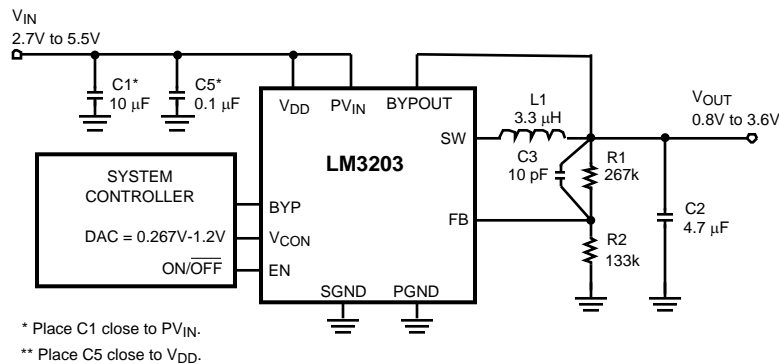

Figure 31. Typical Operating System Circuit where baseband controls the output voltage using a DAC
(1) All voltages are with respect to the potential at the GND pins.
(2) Min and Max limits are specified by design, test, or statistical analysis. Typical numbers are not ensured, but do represent the most likely norm.
(3) The LM3203 is designed for mobile phone applications where turn-on after power-up is controlled by the system controller and where requirements for a small package size overrule increased die size for internal Under Voltage Lock-Out (UVLO) circuitry. Thus, it should be kept in shutdown by holding the EN pin low until the input voltage exceeds 2.7V.
(4) Over-Voltage protection (OVP) threshold is the voltage above the nominal V_{OUT} where the OVP comparator turns off the PFET switch while in PWM mode. The OVP threshold will be the value of the threshold at the FB voltage times the resistor divider ratio. In the Figure 31, $100\text{mV (typ.)} \times ((267\text{K} + 133\text{K}) \div 133\text{K})$.
(5) Shutdown current includes leakage current of PFET and Bypass FET.
(6) Electrical Characteristics table reflects open loop data ($FB=0\text{V}$ and current drawn from SW pin ramped up until cycle by cycle current limit is activated). Refer to Typical Performance Characteristics (Open/Closed Loop Current Limit vs Temperature (PWM Mode) curve) for closed loop data and its variation with regards to supply voltage and temperature. Closed loop current limit is the peak inductor current measured in the application circuit by increasing output current until output voltage drops by 10%.
(7) Bypass FET current limit is defined as the load current at which the FB voltage is 1V lower than V_{IN} .
(Circuit in Figure 31, $PV_{IN} = V_{DD} = EN = 3.6V$, $BYP = 0V$, $T_A = 25^\circ C$, unless otherwise noted)
Referring to Figure 31, the LM3203 operates as follows. During the first part of each switching cycle, the control block in the LM3203 turns on the internal PFET (P-channel MOSFET) switch. This allows current to flow from the input through the inductor to the output filter capacitor and load. The inductor limits the current to a ramp with a slope of around $(V_{IN} - V_{OUT}) / L$, by storing energy in a magnetic field. During the second part of each cycle, the controller turns the PFET switch off, blocking current flow from the input, and then turns the NFET (N-channel MOSFET) synchronous rectifier on. In response, the inductor's magnetic field collapses, generating a voltage that forces current from ground through the synchronous rectifier to the output filter capacitor and load. As the stored energy is transferred back into the circuit and depleted, the inductor current ramps down with a slope around V_{OUT} / L . The output filter capacitor stores charge when the inductor current is going high, and releases it when inductor current is going low, smoothing the voltage across the load.
The LM3203 features a pin-controlled variable feedback voltage. It can be programmed for an output voltage from 0.8V to 3.6V by setting the voltage on the V_{CON} pin, as in the formula below (Refer to Figure 31). In this scheme the output voltage is directly proportional to V_{CON} .
When V_{CON} is between 0.267V and 1.20V, the output voltage will follow the above equation. For example, the V_{OUT} is proportionally 3 times of V_{CON} when external resistor dividers are used as in Figure 31.